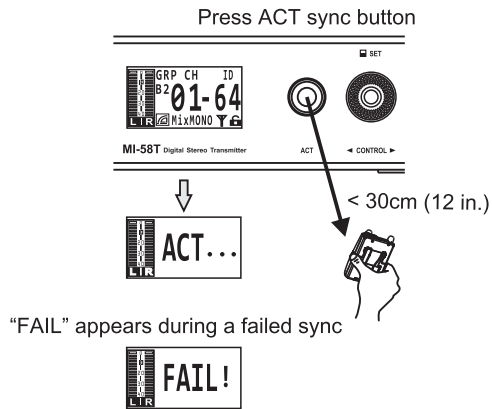

Fig. 19
- (A) Caution 1: All parameters should load from the receiver to the transmitter, set the names and order then send back to a designated receiver is operated and monitored by professional sound engineer.
- (B) Caution 2: Load or Send actions should be completed by ACT (as Fig. 19). Ensure to bring the ACT sync window of the transmitter close to the receiver and then press the rotary knob, the screen displays “ACT...” to denote synchronization. Wait until “ACT...” disappears, and the data transmission is completed.